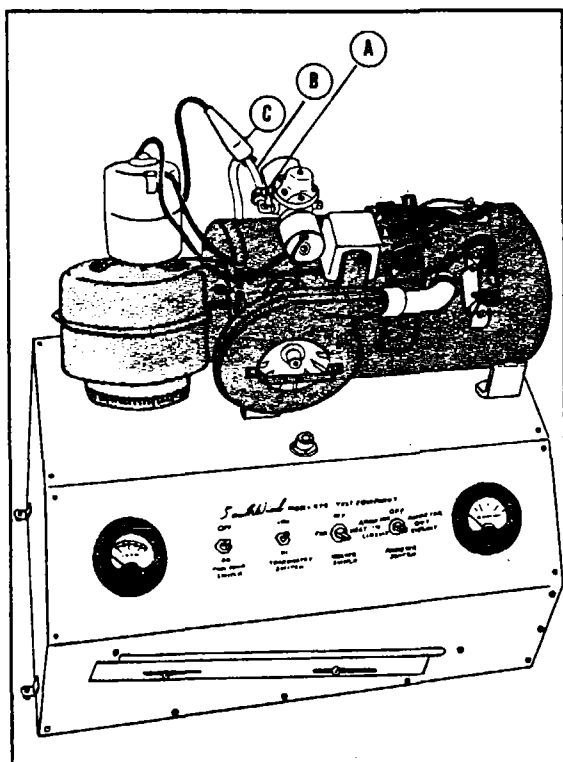

Figure 13-18. Test Stand Installation
- a. Place the heater on the cradle of the test stand with the ventilating air fan on the left hand side. (Refer to Figure 13-18.)
- c. Remove the 1/8 inch P. T. compression elbow from the heater fuel control valve and replace the elbow with the 1/8 inch P. T. compression elbow supplied with the test stand. (Refer to "A", Figure 13-18.)